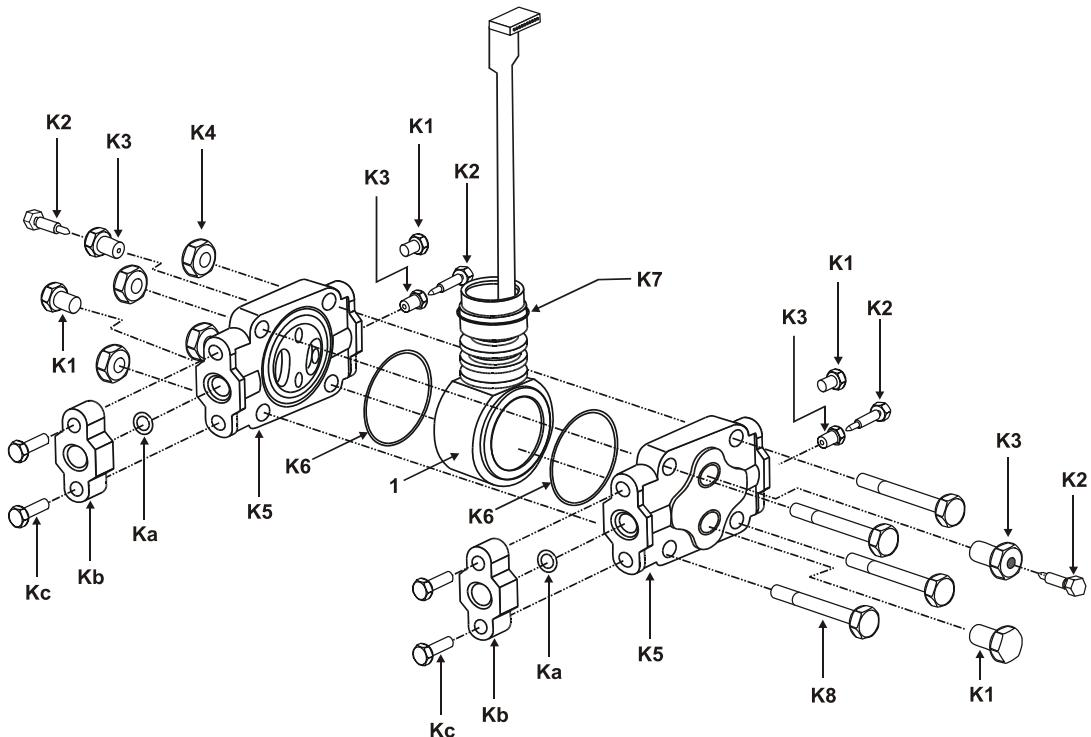

Figure 1 Typical construction for ST3000 models STD110, STD120, STD130, STD170, STD904, STD924, STD930, STD974
For ST 3000 parts see Figure 1, Figure 2 and Table 1.
For ST 3000 parts see **Figure 1, Figure 2** and **Table 1**.
**Table 1 Kit parts common to Figure 1 through Figure 4 (Generic Listing\*)**